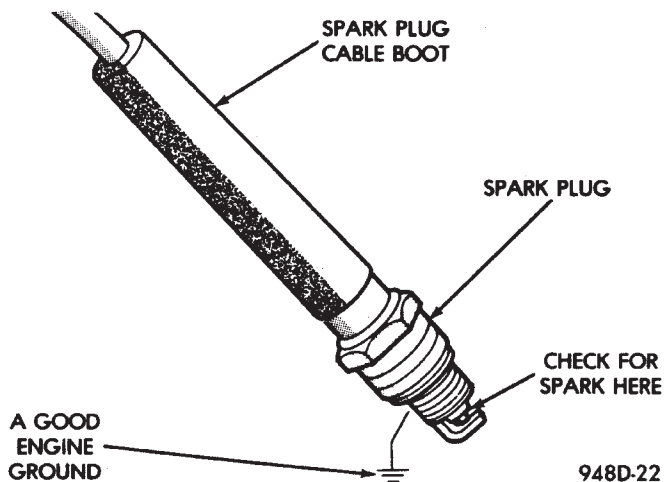

Fig. 14 Testing For Spark
(1) Insert a new spark plug into the new spark plug boot. Ground the plug to the engine (Fig. 14). Do not hold with your hand.